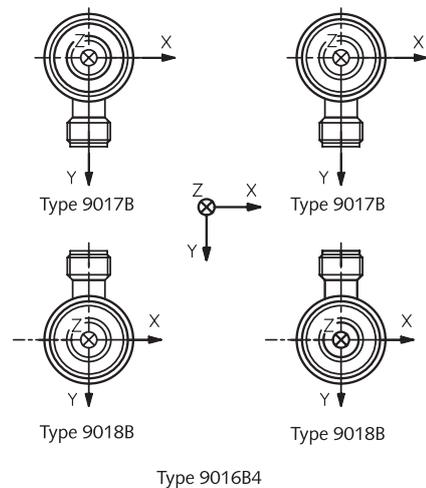

Fig. 2: Set consisting of four selected 3-component force sensors
The set of four selected sensors consists at 2 each sensors Type 9017B and 9018B selected and ground to the same thickness. They are used for mounting into multicomponent dynamometers and force plates (Fig. 2).
- Set of four matched 3-component force sensors ground together, two of each Type 9017B and 9018B (see Fig. 2)